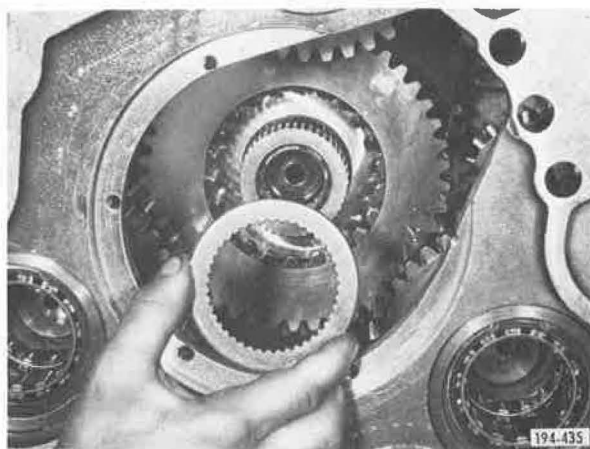

Figure 5-494. Installing Thrust Washer
28. Through rear case front opening, install Lo-range (or Lo-Lo range) gear front thrust washer. See Figure 5-494.